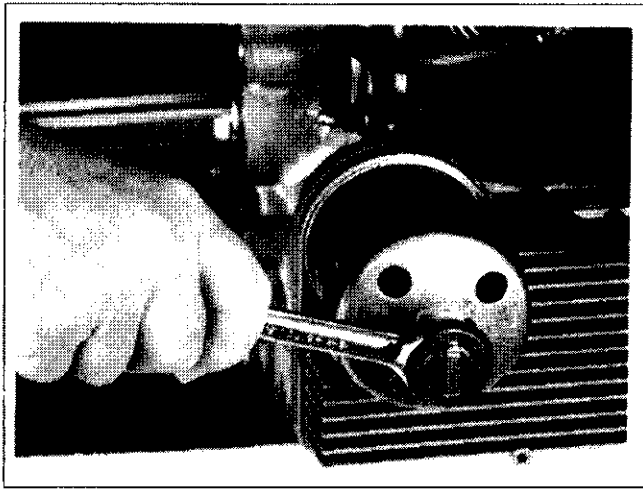
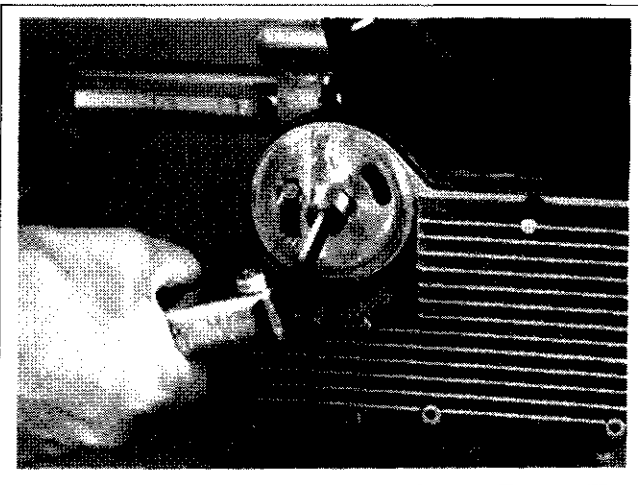

Figure 9-5. Removing Oil Filter.
Figure 9-6. Removing Oil Filter Adapter.
3. Remove and discard the oil filter. See Figure 9-5.
4. The oil cooler shown in Figures 9-5 through 9-7 is standard equipment on the CH25 and may be an option on other models. If so equipped, remove the adapter (see Figures 9-6 and 9-7) and the cooler.